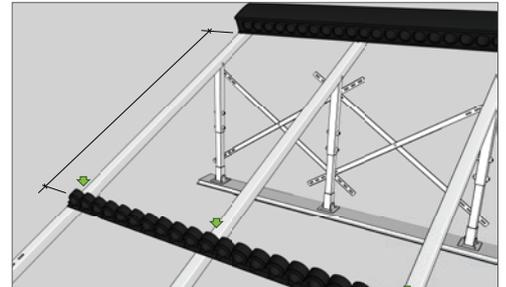

Fig 5
6. Measure down from header section the required dimension and mark position for the footer rail. Fix footer rail into position using the supplied tek screws - 6 locations (Fig 5)